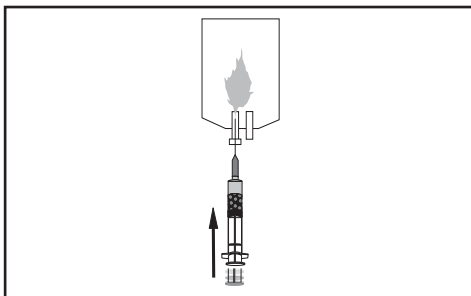

Figure 1.
- 1.4 While keeping syringe upright and taking care not to disrupt settled microspheres, attach a sterile filter needle to the syringe. With the filter needle pointed upward, eject transport solution (Figure 1). Ensure enough transport solution remains inside the syringe to cover the microspheres.